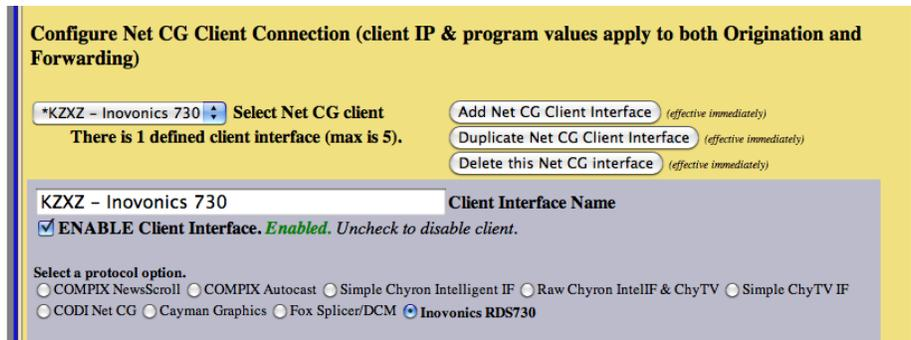

Figure 6. Example name of interface. Note the name will appear in the pull down list after accepting changes
5. The page expands to enter more information. It is a good idea to add a descriptive name identifying the Station and device In the **Client Interface Name** box as shown in the Figure 6 below. Each client interface created is shown in the pull down menu to the left of **Select Net CG client** once it is saved.